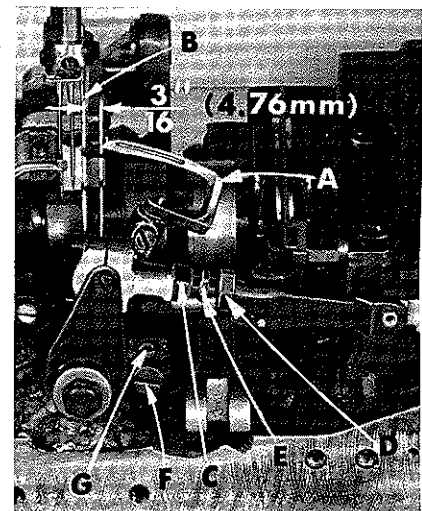

Fig. 8
Insert a new needle in the right needle seat, type and size as specified. If the looper gauge is  $\frac{3}{16}$  inch (4.76 mm), for example, set the looper (A, Fig. 8) so the distance from the center of the right needle (B) to the point of the looper is  $\frac{3}{16}$  inch (4.76 mm) when the looper is at its farthest position to the right. Looper gauge No. 21225- $\frac{3}{16}$  can be used advantageously in making this adjustment. Refer to chart for looper gauge setting and looper gauge number applicable to machine Style. If adjustment is required, loosen nut (C) (it has a left hand thread) and nut (D) on connecting rod (E), turn the connecting rod forward or backward to obtain specified dimension. Retighten both nuts, first nut (D) and then nut (C). Make sure the left ball joint is in vertical position and does not bind after adjustment.
The looper is set correctly in line-of-feed, if, as it moves to the left, behind the needle, its point brushes, but does not pick at the rear of the needle. If adjustment is necessary, loosen lock screw (F, Fig. 8) and turn stop screw (G) as required. Turning stop screw clockwise sets the looper to the rear and turning it counterclockwise acts the reverse. Holding looper to the front while making this adjustment may prove helpful. Tighten lock screw when setting is obtained and recheck the adjustment.